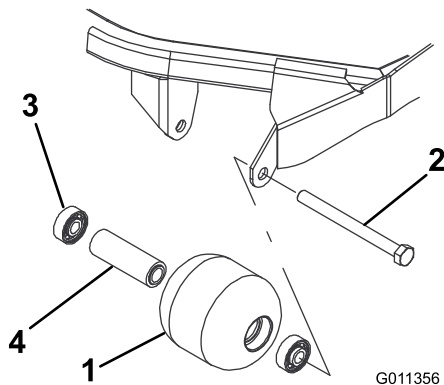

Figure 68
1. Remove the roller-mounting bolt (Figure 68).
4. Inspect the roller housing, bearings, and bearing spacer for damage (Figure 68).
1. Press the first bearing into the roller housing (Figure 68). Press on the outer race only or equally on the inner and outer race.
2. Insert the spacer (Figure 68).
3. Press the second bearing into the roller housing (Figure 68). Pressing equally on the inner and outer race until the inner race comes in contact with the spacer.